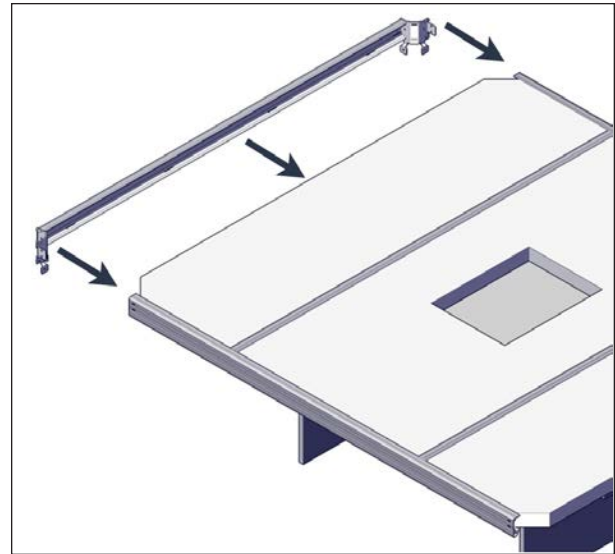

FIGURE 42: CORNER AND CHANNEL INSTALLATION
6. On one end of the cover, slide on corner brackets and C- channel assembly see Figure 42. It is recommended to slightly engage the top flange before the bottom when sliding the C-Channel onto the foam panel.